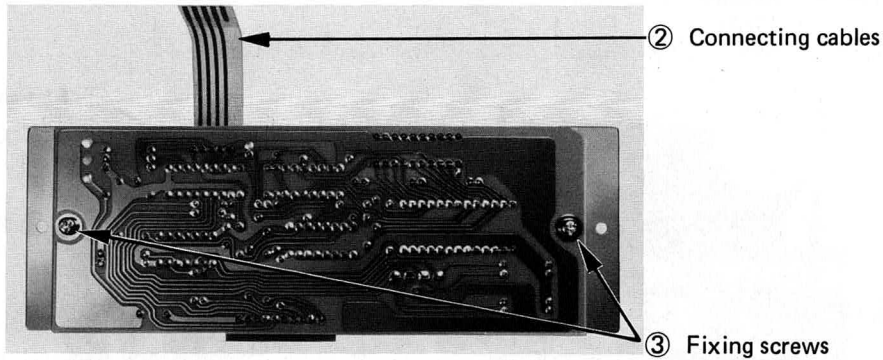

Fig. 5.27
Step 3. Disconnect connecting cables ② of the operation panel switch from the operation panel circuit board. (Fig. 5.27)
Step 4. Remove two fixing screws ③ of the operation panel circuit board to detach the circuit board from the operation panel switch. (Fig. 5.27)